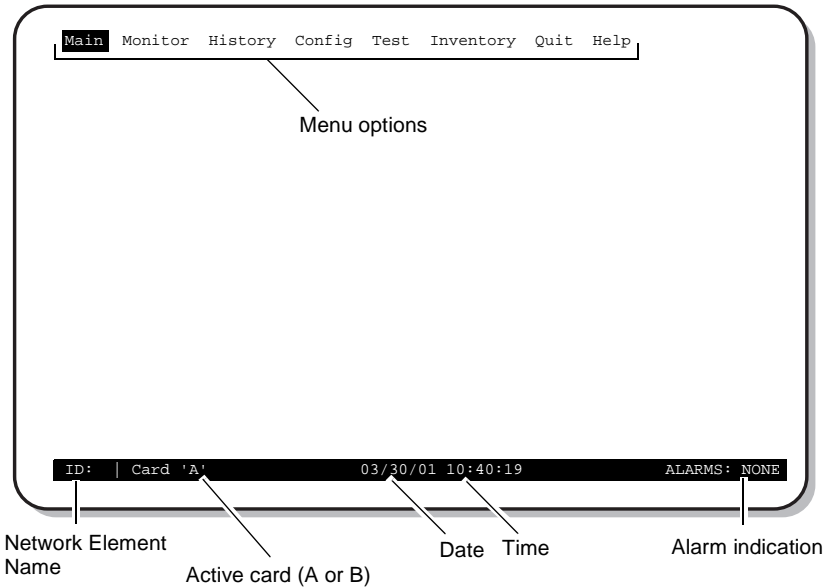

Figure 6. HXU-358 Main Menu
- 7 From the Shelf Status screen, select **M** to log onto the HXU-358. The logon menu tree for the HXU-358 interface appears. (Figure 6 on page 12.)